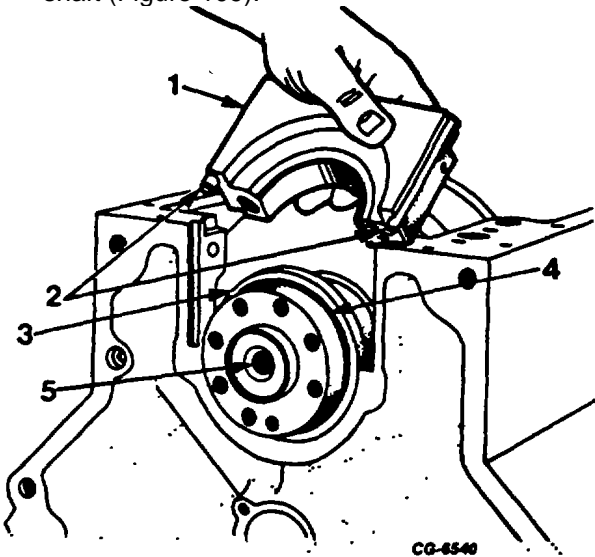

Figure 109. Removing Rear Main Bearing Cap and Oil Seals
- 20. Remove rear main bearing cap side seals and remove rear main bearing oil seal from crankshaft (Figure 109).